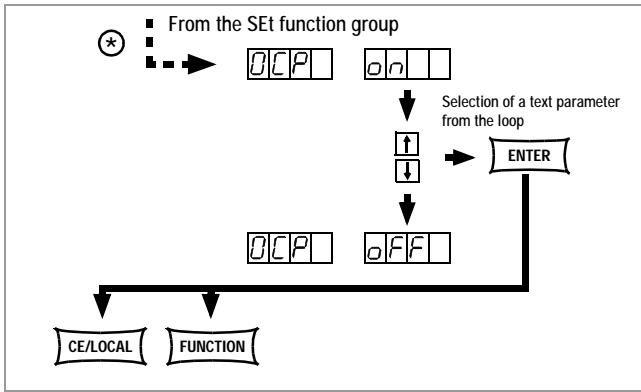

Figure 4.2.1.4 Path to OCP Text Parameter Settings
- ☞ The procedure for adjusting **OCP** is in principle identical to the procedure used for adjusting **Ulim** (see 4.2.1.1, figure 4.2.1.1).